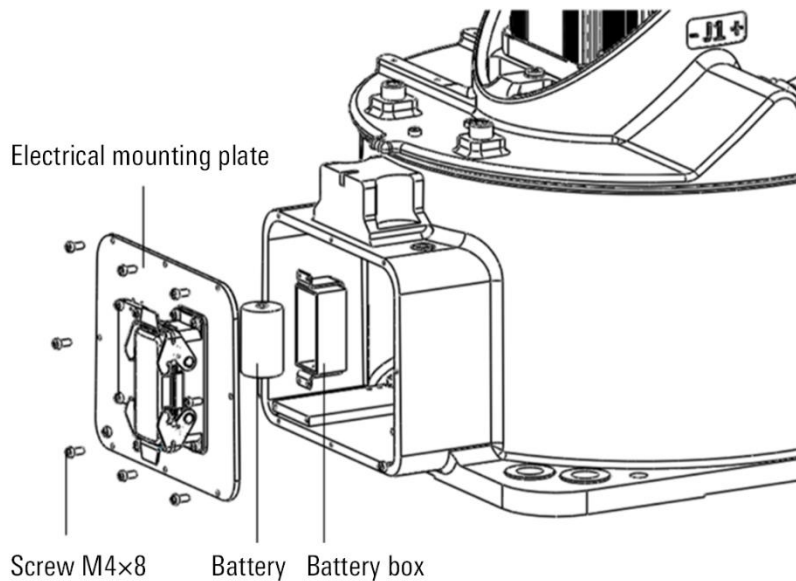

Figure 12-5 Remove the manipulator electrical installation panel
Step3. Remove the electrical installation plate of the manipulator and the battery box, as shown in Figure 12-5.